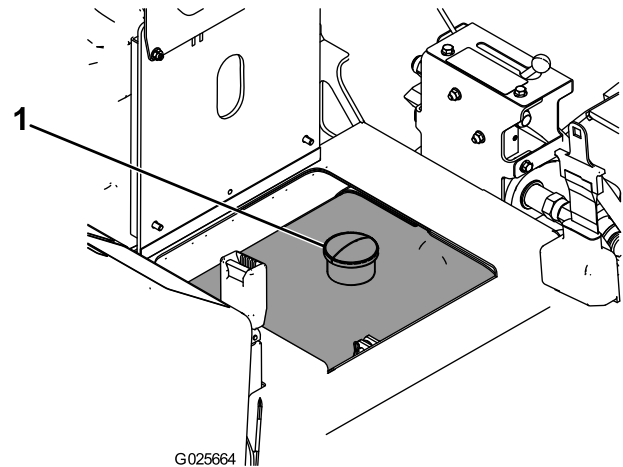

Figure 15
3. Remove the fuel tank cap (Figure 15).